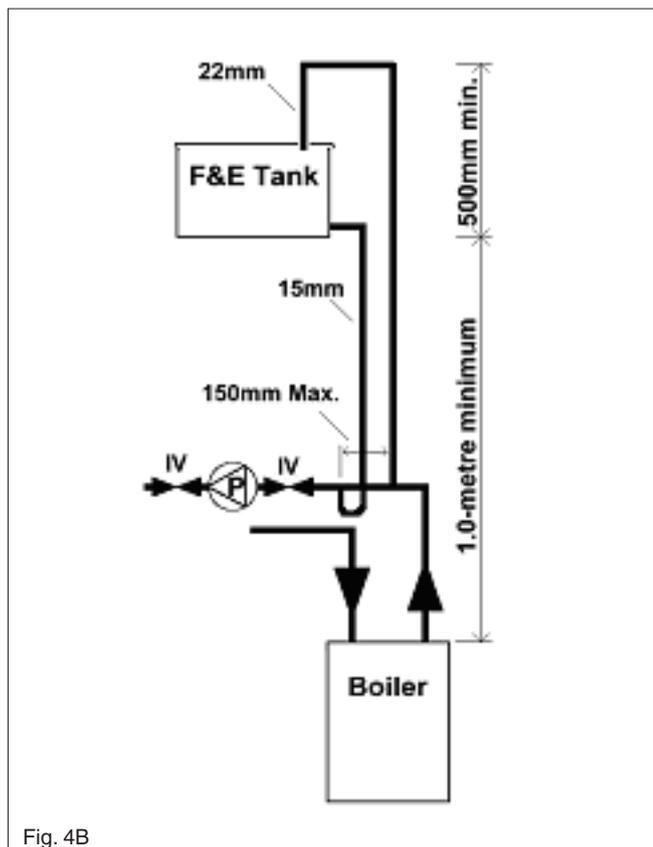

Fig. 4B
configuration of the close-coupled pipe work shall be as shown in figure 4B.
- The cold feed pipe must be inverted as shown in figure 4B
If necessary or if preferred, a close-coupled arrangement for the feed and expansion pipe work can be used as an alternative to a combined feed and vent pipe. The configuration of the close-coupled pipe work shall be as shown in figure 4B.
- The cold feed pipe must be inverted as shown in fig. 4B